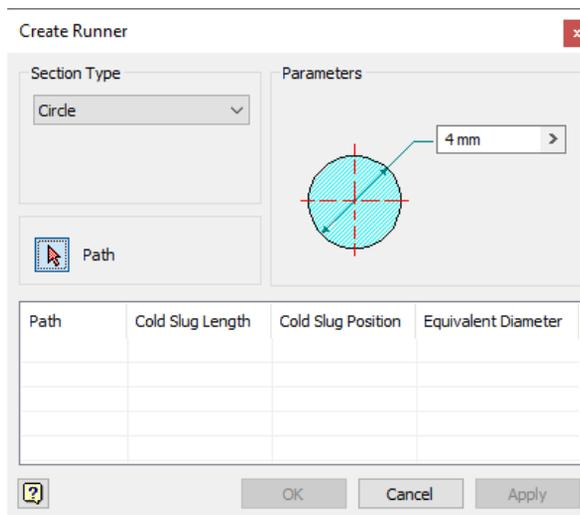

Figure 19-61 The Create Runner dialog box
1. Choose the **Runner** tool from the **Runner** drop-down in the **Runners and Channels** panel in the **Mold Layout** tab of the **Ribbon**; the **Create Runner** dialog box is displayed, as shown in Figure 19-61.